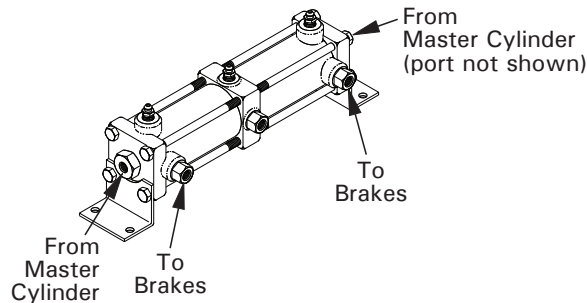

FIGURE 19
3. Connect the upstream line coming from the master cylinder to the fluid inlet port on one end of the actuator. Note that the actuator is not directional and does not have a front and rear. Connect the downstream line going to the rear brakes from the side outlet port on the same end of the dual actuator. See Figure 19.